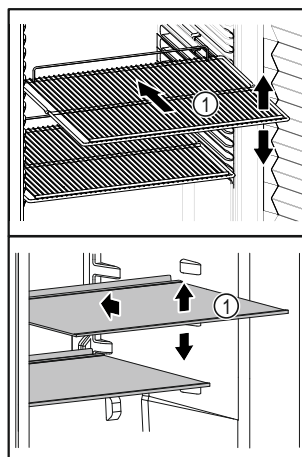

Fig. 61 Example illustration
- ❑ If storage surfaces Fig. 61 (1) are movable, adjust them according to height.